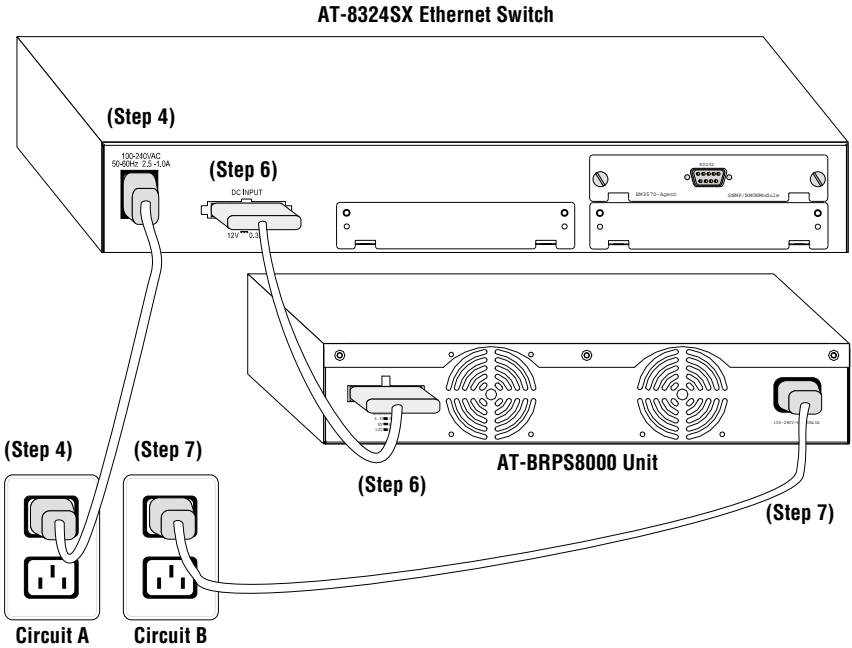

Figure 1 AC and DC Power Cord Connections
4. If the AT-8324SX switch is not already powered ON, connect one end of the AC power cord supplied with the switch to the AC connector on the switch and the other end to a grounded AC power outlet (Figure 1).